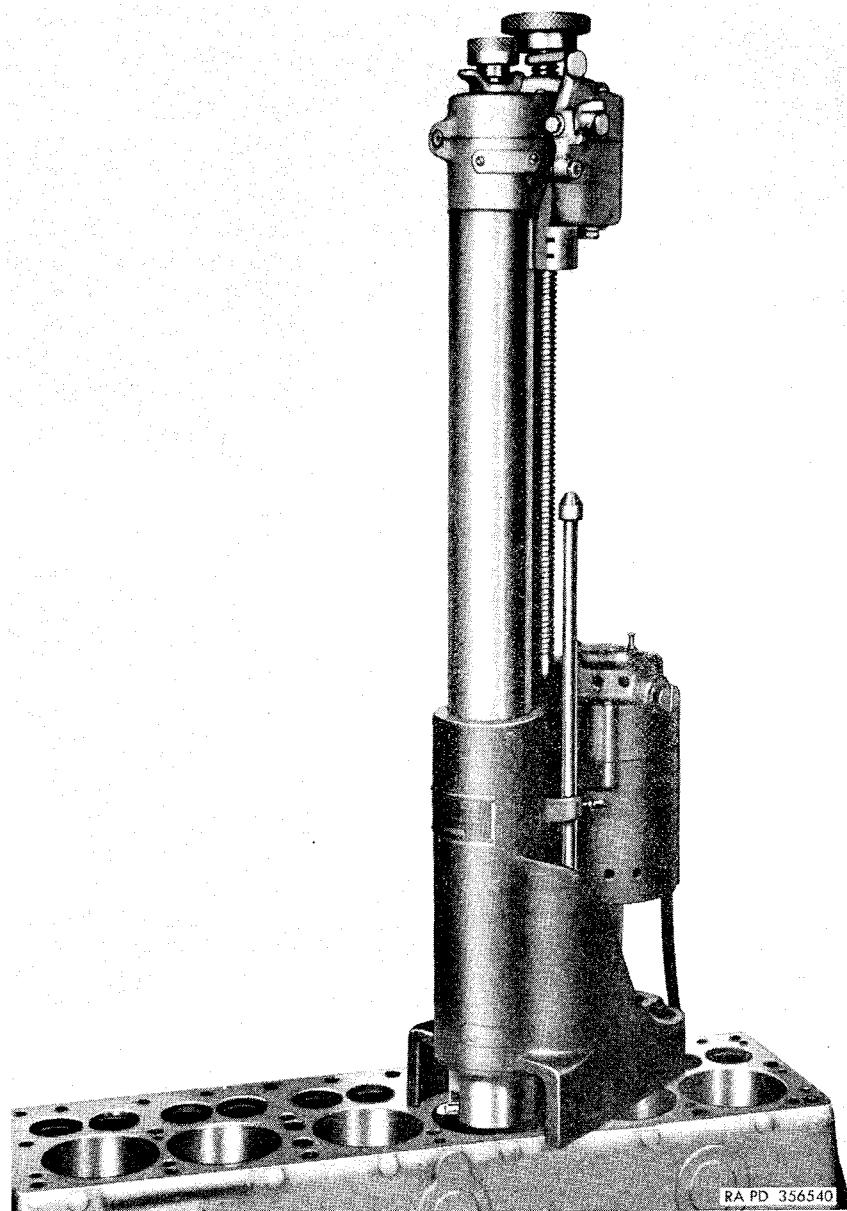

Figure 44. Reboring cylinders.
(4) *Reboring cylinders* (fig. 44). If cylinder bore is out-of-round or taper exceeds wear limits in repair and rebuild standards (par. 62), or is scored, the bore should be reconditioned for an oversize piston. Cylinders may be rebored to 0.060-inch oversize, if required. If crankshaft has not been removed when reboring, the connecting rod journals